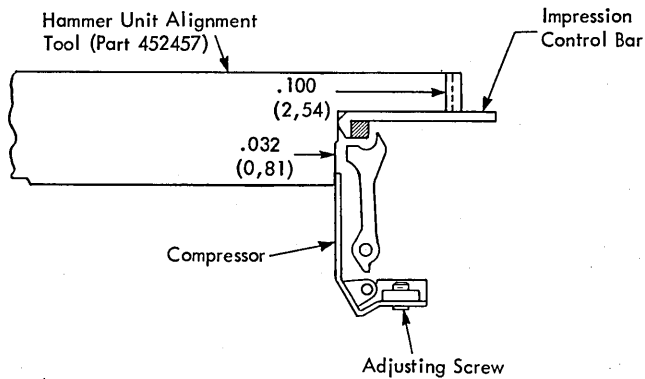

Figure 4-29. Forms-Compressor Adjustment
- proper setting of each compressor control pad (see Figure 4-29).
Set print density lever at A. Raise the translating frame as high as possible, if adjusting in the machine. Adjust the setscrew in the bottom of the forms compressor to bring its front edge .032 in. (0,81 mm) from the front edge of the impression control bar in a horizontal direction. Use tool 452457. Lay the cutout end on the impression control bar with the .032 in. (0,81 mm) edge adjacent to the compressor (Figure 4-29). Make the adjustment while applying finger pressure in a vertical direction to the bottom of the compressor to remove clearances in the pivot pin area.